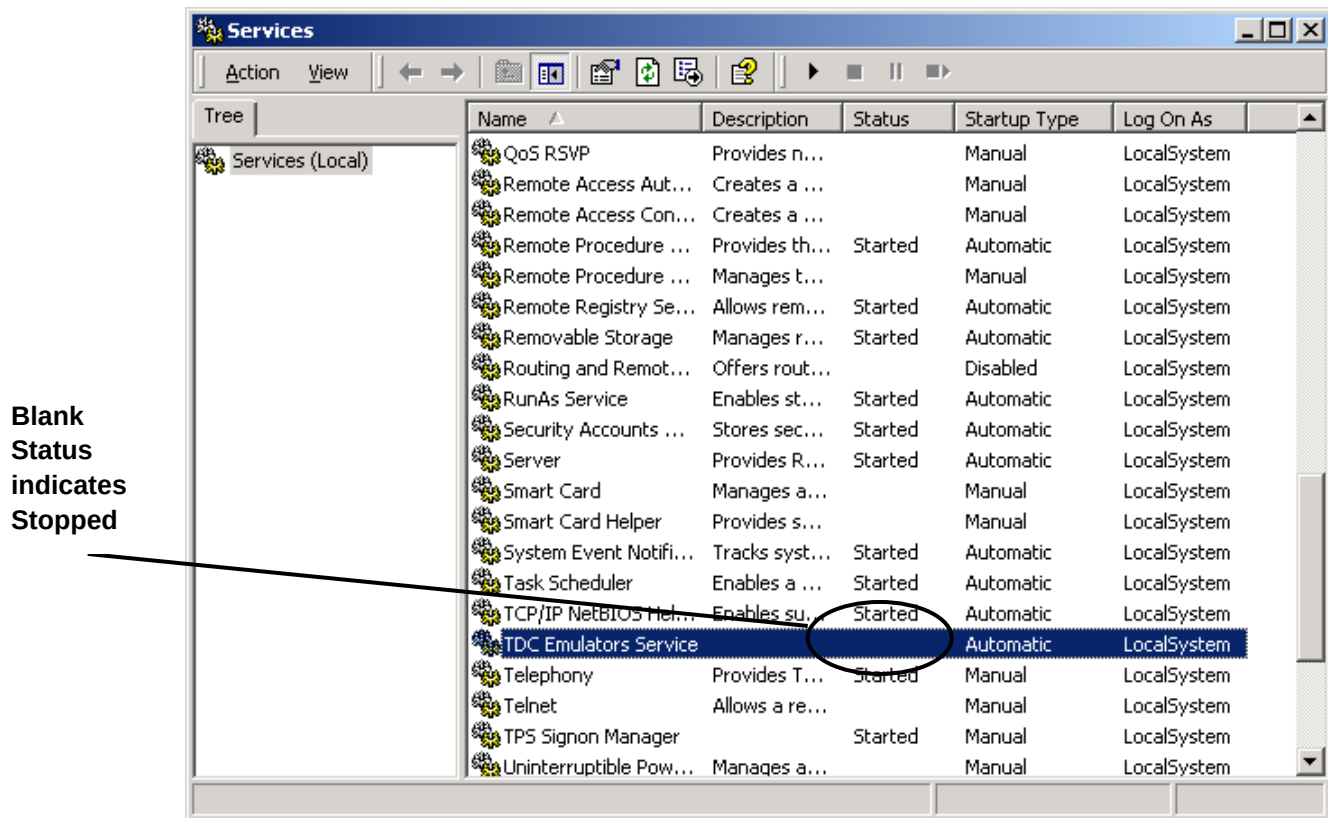

Figure 2.3-1 TDC Emulators Service Stopped
2.3.3	Select Services and in the Services window, scroll down until the TDC Emulators Service appears. See Figure 2.3-1 below.
2.3.12	Select Services and in the Services window, scroll down until the TDC Emulators Service appears. See Figure 2.3-1 previously.